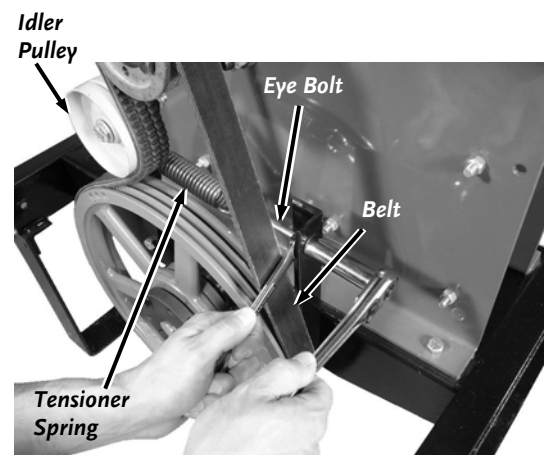

Figure 31
4. Loosen the outer two Nuts on the Tensioner Eye Bolt until the Belt can be easily removed (**Figure 31**).